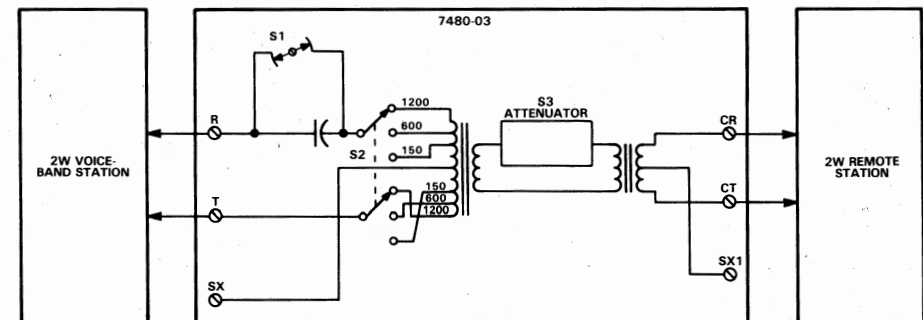

Figure 2. 7480-03 Typical Application
2.01 The 7480-03 is used to interface between 2-wire voiceband data station equipment and a 2-wire private line service or polled network service such as the Transaction Network or the DATAPHONE® Select-A-Station. A typical application is shown in Figure 2. The 7480-03 can also be used to interface a carrier 2-wire extended loop but the dc current blocking option (S1) cannot be used.